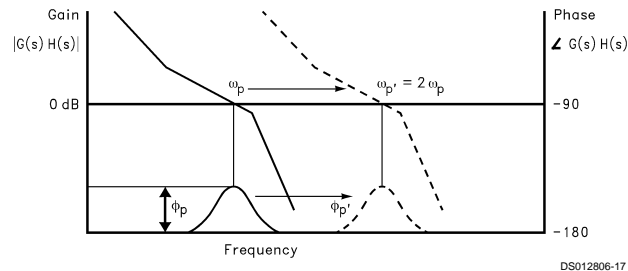

FIGURE 4. Open Loop Response Bode Plot
A plot of the magnitude and phase of $G(s)H(s)$ for a stable loop, is shown in *Figure 4* with a solid trace. The parameter ϕ_p shows the amount of phase margin that exists at the point the gain drops below zero (the cutoff frequency ω_p of the loop). In a critically damped system, the amount of phase margin would be approximately 45 degrees.
If we were now to redefine the cut off frequency, ω_p' , as double the frequency which gave us our original loop bandwidth, ω_p , the loop response time would be approximately halved. Because the filter attenuation at the comparison frequency also diminishes, the spurs would have increased by approximately 6 dB. In the proposed Fastlock scheme, the higher spur levels and wider loop filter conditions would exist only during the initial lock-on phase—just long enough to reap the benefits of locking faster. The objective would be to open up the loop bandwidth but not introduce any additional complications or compromises related to our original design criteria. We would ideally like to momentarily shift the curve of *Figure 4* over to a different cutoff frequency, illustrated by the dotted line, without affecting the relative open loop gain and phase relationships. To maintain the same gain/phase relationship at twice the original cutoff frequency, other terms in the gain and phase *Equation (4)* and *Equation (5)* will have to compensate by the corresponding “ $1/\omega$ ” or “ $1/\omega^2$ ” factor. Examination of *Equations (2)*, *(3)* and *Equation (5)* indicates the damping resistor variable $R2$ could be chosen to compensate the “ ω ” terms for the phase margin. This implies that another resistor of equal value to $R2$ will need to be switched in parallel with $R2$ during the initial lock period. We must also insure that the magnitude of the open loop gain, $H(s)G(s)$ is equal to zero at $\omega_p' = 2\omega_p$. K_{VCO} , K_ϕ , N , or the net product of these terms can be changed by a factor of 4, to counteract the ω^2 term present in the denominator of *Equation (2)* and *Equation (3)*. The K_ϕ term was chosen to complete the transformation because it can readily be